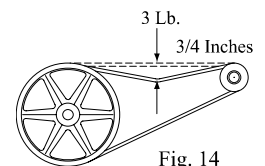

Fig. 14
- **Check belt tension.** A 3 lb. force should deflect the belt 3/4 inches (see Fig. 14). Readjust belt if needed.